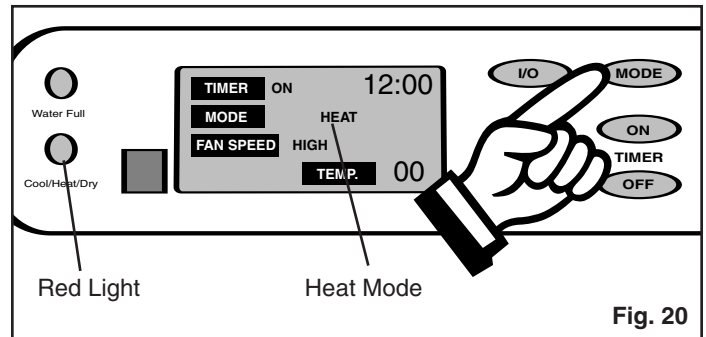

Fig. 20
- 1) Press the **MODE** key until the word **Heat** is displayed in the **LCD** window. *Fig. 20*. Each depression of the **MODE** key will advance to a different mode setting (**Cool-Dry-Heat-Fan**). The **red** indicator light will come on indicating the “Heating” mode is operational (there may be a slight delay of 5-10 seconds before the cycle begins, this is normal).